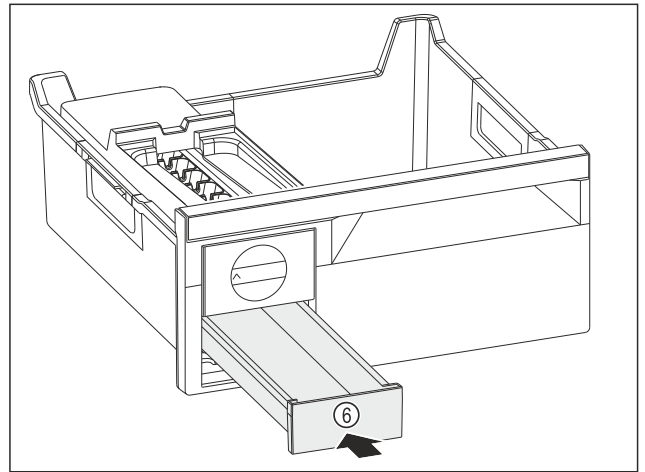

Fig. 193
- ▶ Insert the ice cube drawer Fig. 193 (6).